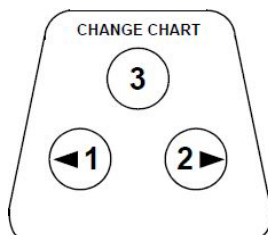

Figure 16. Pressure Sensitive Chart Buttons
2. Press and hold the change chart button (#3 in *Figure 16*) for approximately one second. The pen will move off the scale.
3. Compare the recorder temperature to the solution temperature. If necessary, adjust the recorder by pressing the left and right chart buttons (#1 and #2 from *Figure 16*) for approximately 5 seconds.